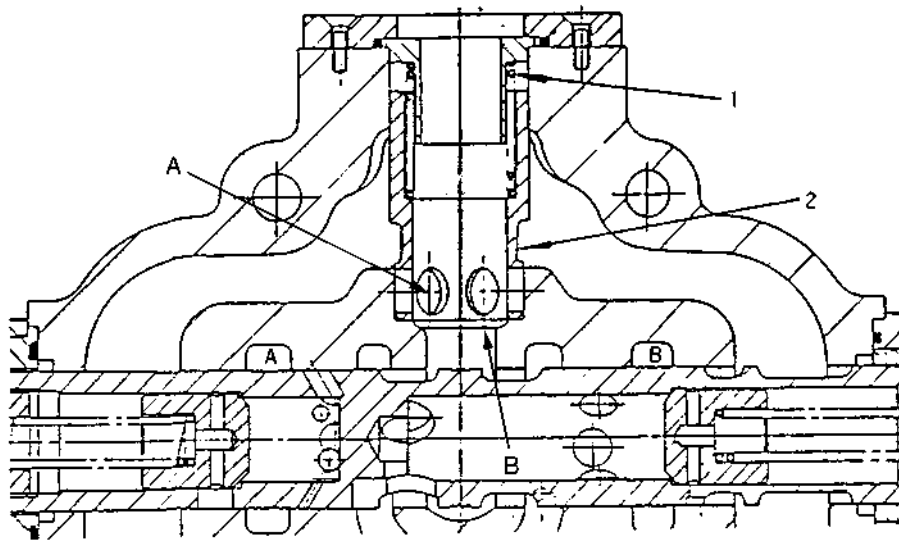
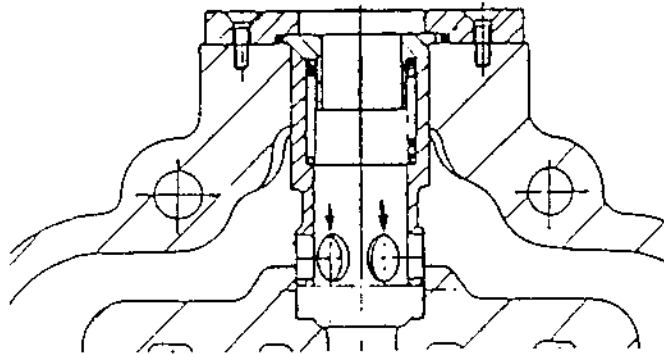

FIGURE 7-68
FIGURE 7-69
Port A of the restriction valve is connected to the oil return line of the control valve. See Figure 7-68. Port B is connected to the center bypass line of the control valve. When all the control valves are in neutral, the oil returns through port B and is returned to tank without being restricted.
If any spool is being operated, the center bypass line is blocked. Return oil must now pass through the control valve oil return line and port A of the restriction valve. Oil passing through port A must overcome the spring force (1, Figure 7-68) of the poppet (2) to pass through the restriction valve. See Figure 7-69. This creates pressure in the return oil circuit all the way back to the cylinder that is being operated.